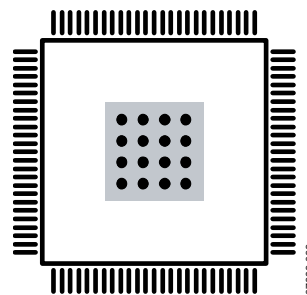

Figure 60. Exposed Pad Layout Example—Top View
- Vias should be placed to connect all layers of copper, allowing for efficient heat and energy conductivity. For an example, see Figure 60, which has 16 vias arranged in a 4 \times 4 grid in the pad area.